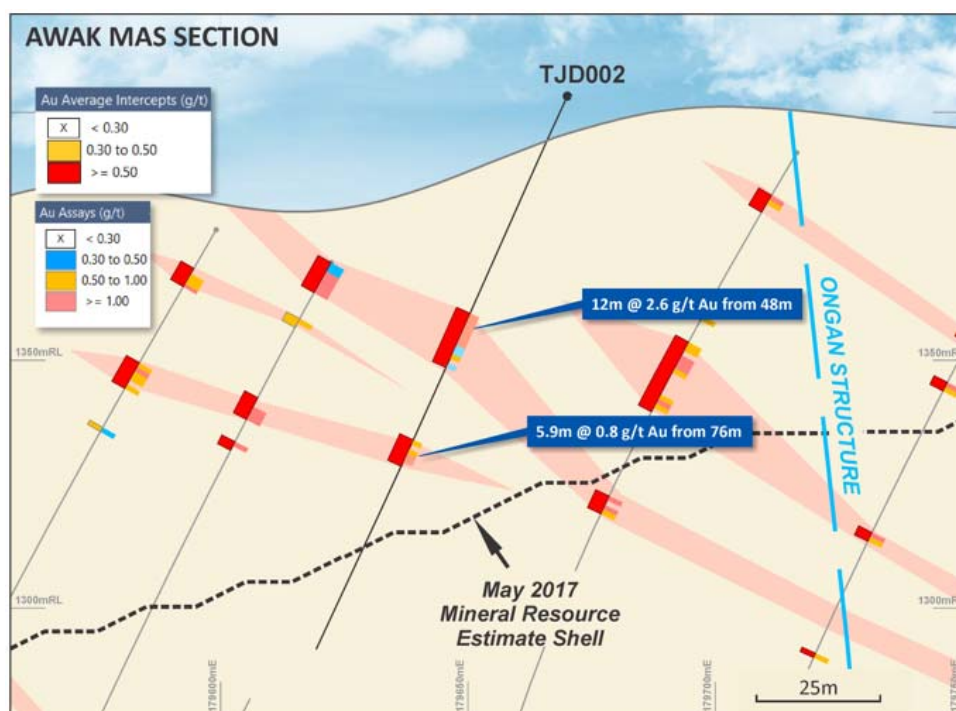

Figure 6: Cross-section of Awak Mas deposit showing mineralised intersections > 0.3 g/t Au in TJD002.
- TJD002 (Figure 6); 12.0 m at 2.6 g/t Au from 48.0 m.